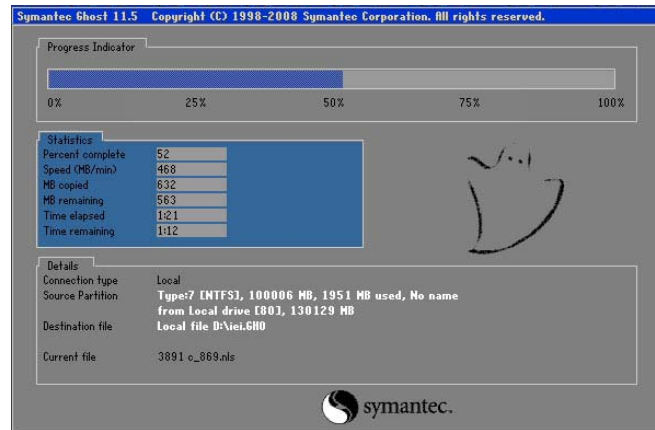

Figure C-27: Image Creation Complete
Step 7: The Symantec Ghost starts to create the factory default image (**Figure C-27**).